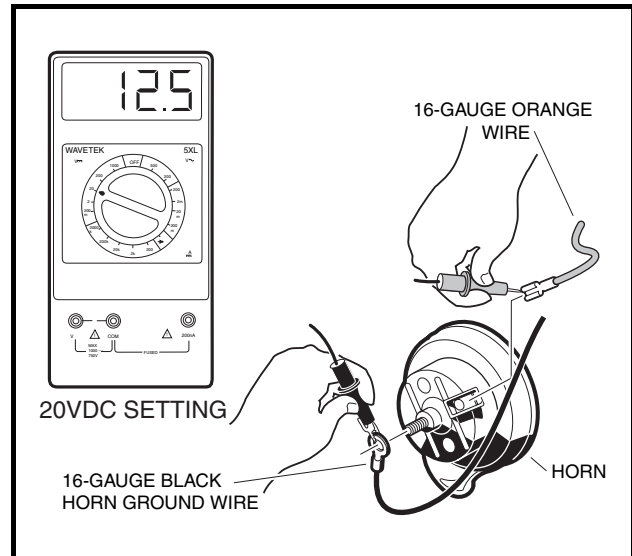

Figure 11-46 Horn Voltage Test
5. Set a multimeter to 20 volts DC and place alligator clips on the multimeter probes. Connect the black (–) probe to the black horn ground wire (**Figure 11-46, Page 11-43**).